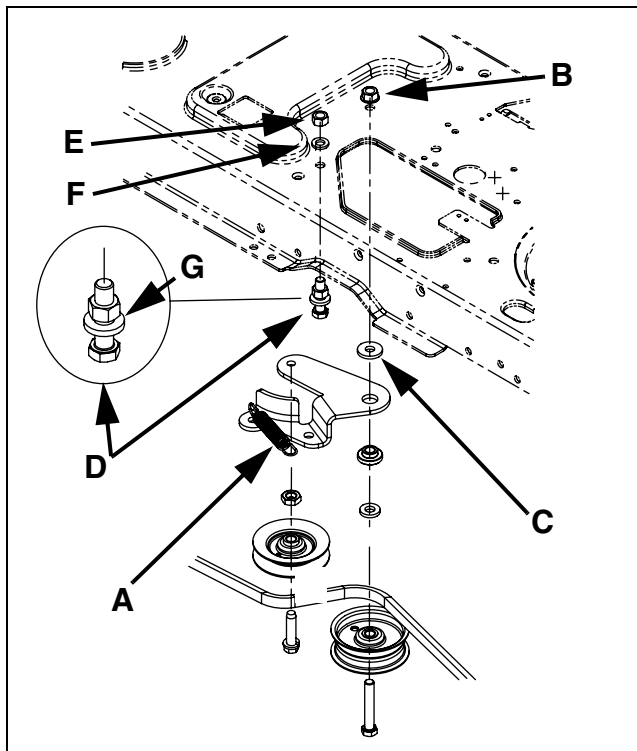

FIGURE 2
20. See Figure 2. Inspect spring attach bolt sub-assembly, "D", for a floating washer, "G", between the head of the bolt and the under the frame nut. If the washer is present, remove hex nut "E" and lock washer "F". Disassemble the bolt/nut/washer sub-assembly, "D" and remove the floating flat washer. Re-install the bolt sub-assembly as was originally installed less the floating flat washer.
26. Replace the existing extension spring 732-0429A with Extension Spring 732-04323A, Item 1. See Figure 2 Item "A". The spring **MUST** be hooked at the lowest point on bolt "D" (i.e. next to the head of the bolt). The orientation of the spring hooks relieves the twist in the spring when installed. The new spring also provides additional coil separation.
NOTE: If repairs were started at Step 26 there may be a floating flat washer on the spring attach point bolt "D". See Figure 2. The floating washer is not required with the new spring but can be left as is. However, the floating washer **MUST** be positioned between the spring hook and the frame.